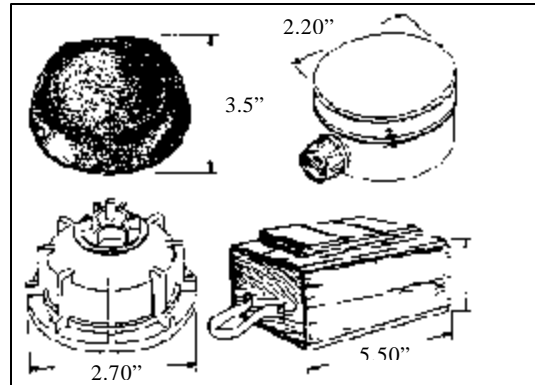
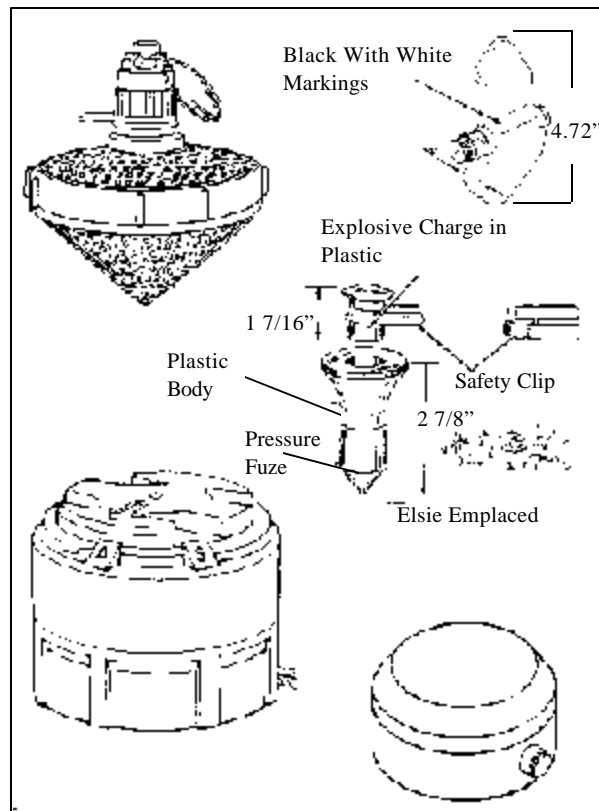

Figure 69. APERS pressure-fuzed, blast-type mines.
Figure 70. APERS mines.
- (1) Typical blast-type APERS mines are shown in Figure 69 and Figure 70. They normally consist of a small container filled with HE and a fuze. The body may be made of plastic, metal, wood, ceramic, or cardboard.